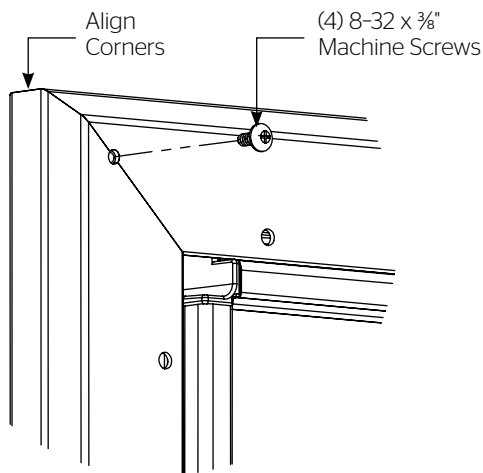

Figure 4
2. Align corners and insert one 8-32 x $\frac{3}{8}$ " screw in each corner to attach the outer bezel onto the inner frame assembly (Figure 4).